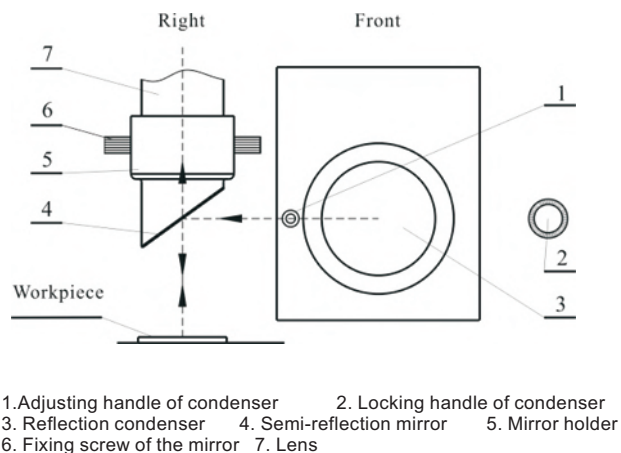

Fig. 8 Instruction of reflection illumination
#### 6.1.3 The adjustment of the reflective illumination (See Fig. 8).
- 6.2.5 Please don't put the semi-reflective mirror (See 5 of Fig.8) on the lens when you use the transmission light to measure. Otherwise the outline measurement precision and the brightness of the screen would be therefore unfavorably affected. This should be especially cautious for that would affect the result if you just care for the